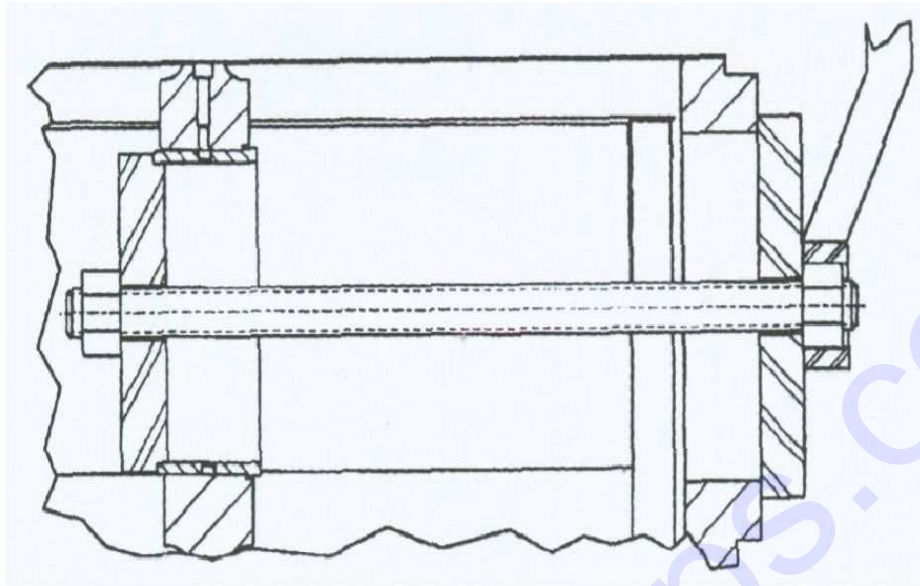

Figure 22: Center Bearing Puller
8. Inspect the center support crankshaft bearings (14) for scoring or galling of the Babbitt surface or for imbedded debris. Minor concentric scratches caused by small debris passing through the bearing are not cause for replacement.
9. If bearings are damaged or clearance measured in step 4 exceeds 0.010 inches, the center support bearings will need to be replaced. Remove the socket head lock screws (15) that retain the bearings and then pull the bearings. Refer to Picture 5 for locking screw location.
10. The use of an all-thread rod and a plate machined to fit the bearing will allow for proper removal and allow the new bearings to be installed. Refer to Figure 22 for an illustration of the puller arrangement. NOTE: Align the lock screw relief in the bearing OD with the threaded hole in the power frame to allow for installation of the lock screw. It is important that the lock screw engage the relief hole in the OD of the bearing to prevent rotation. If the screw does not engage the hole in the bearing, the screw will push against the outside of the bearing and cause deformation.